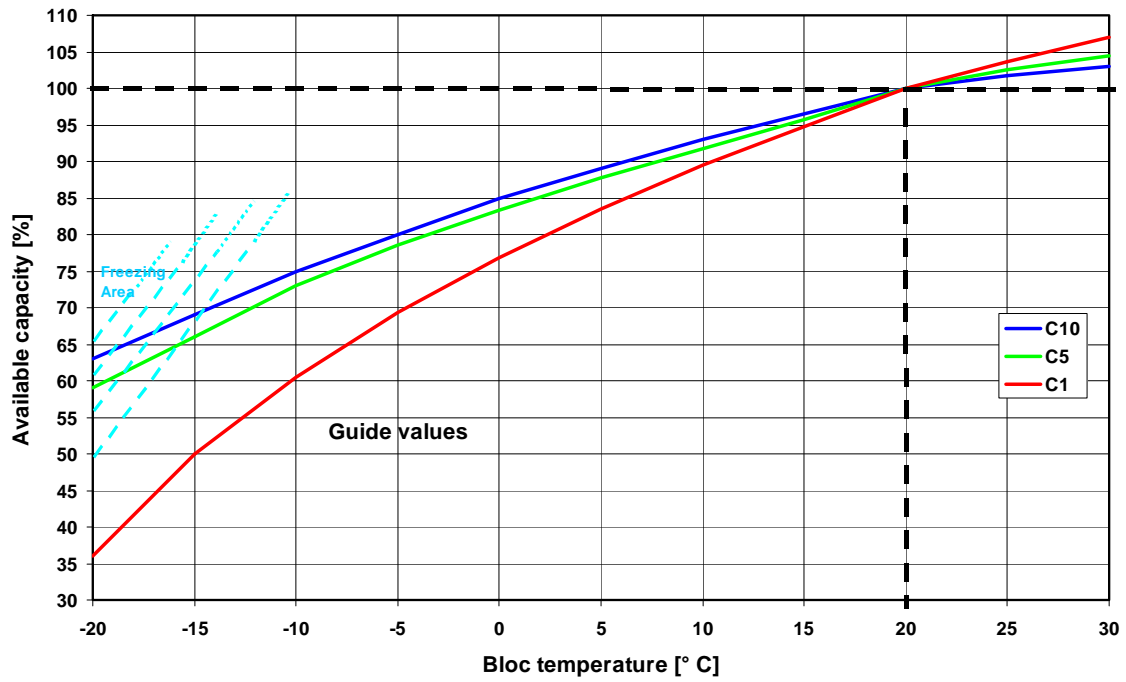

Fig. 28: A400, A500, SOLAR, SOLAR BLOCK - Capacity (% Rated Capacity) vs. Temperature
- The battery temperature influences the capacity as shown in fig. 28 and 29.